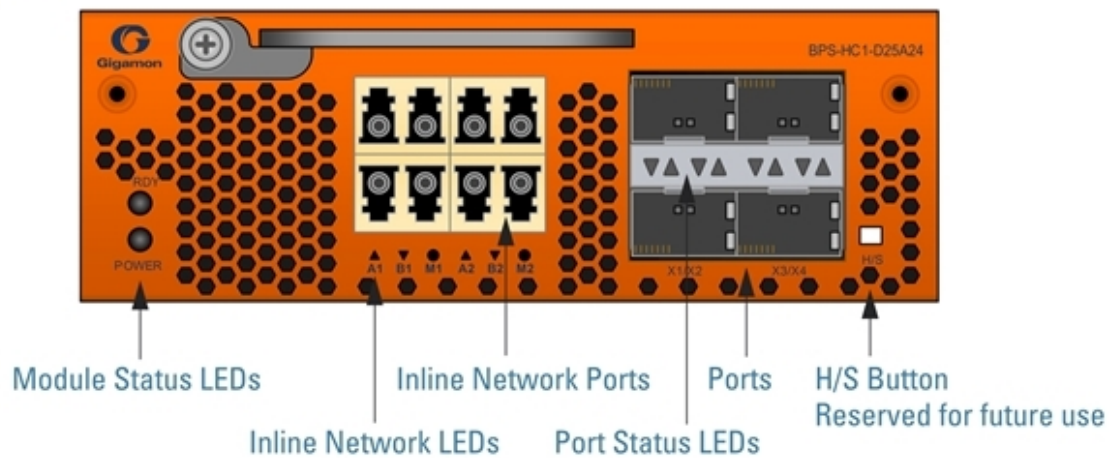

Figure 5 Bypass Combo Module BPS-HC1-D25A24
- Bypass Combo Module with two SX/SR (50/125µm multimode) inline network port pairs and four regular SFP+ and SFP+ copper port cages (BPS-HCI-D25A24) (Figure 5 Bypass Combo Module BPS-HCI-D25A24)